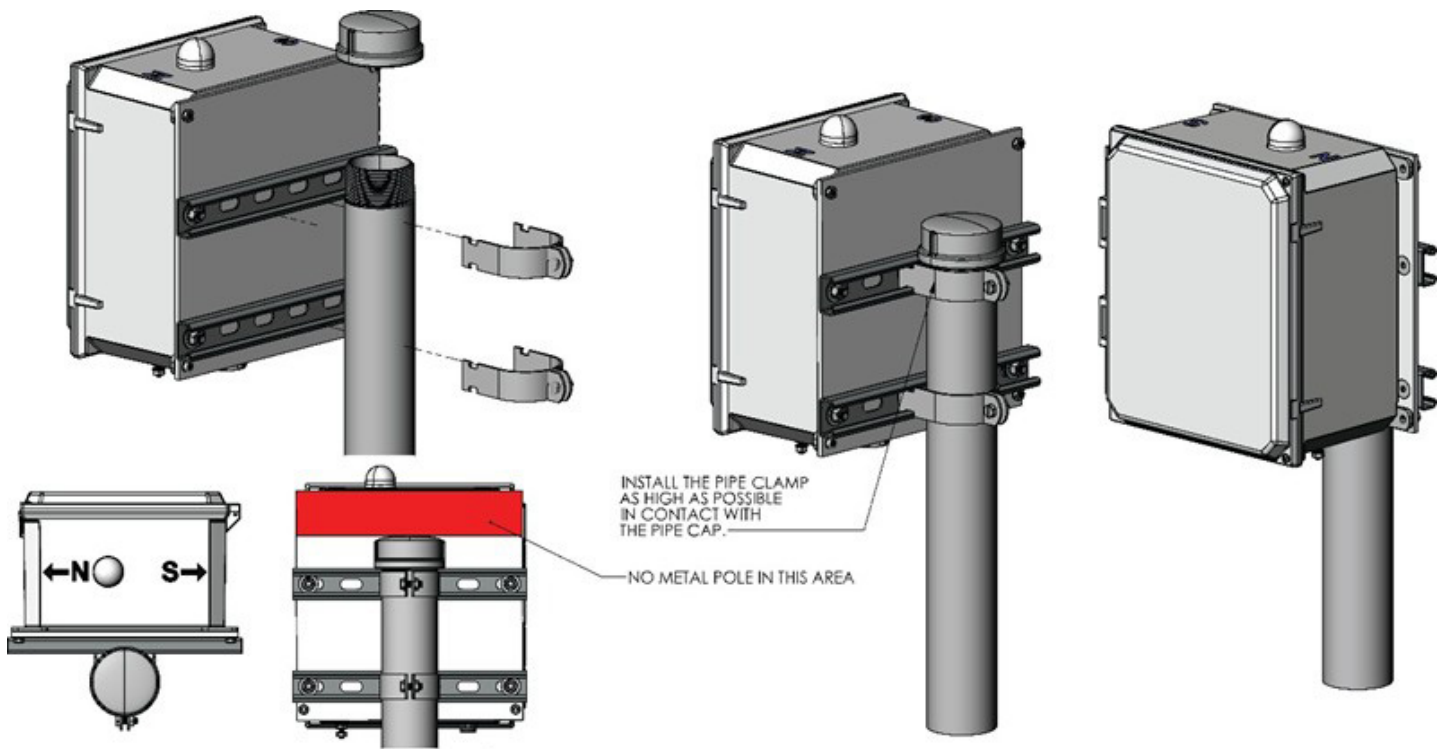

Figure 5. QLTX Mounted to Mast
3. Secure the mounting struts loosely to the mast by tightening the clamps with a ½" wrench. The QLTX is installed on a mast so that the internal antenna plane is above the top of the mast as shown in Figure 5.